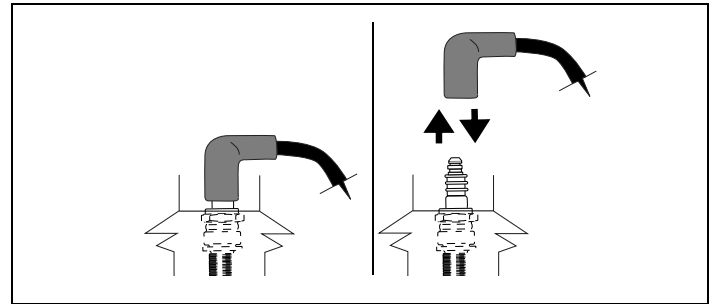

Figure 44. Disconnecting/Connecting Spark Plug
1. Carefully disconnect spark plug wire and keep it away from spark plug. See Figures 44 and 45. See "G. Avoid Accidental Starts" instructions on page 2. Afterward, continue reading instructions below.